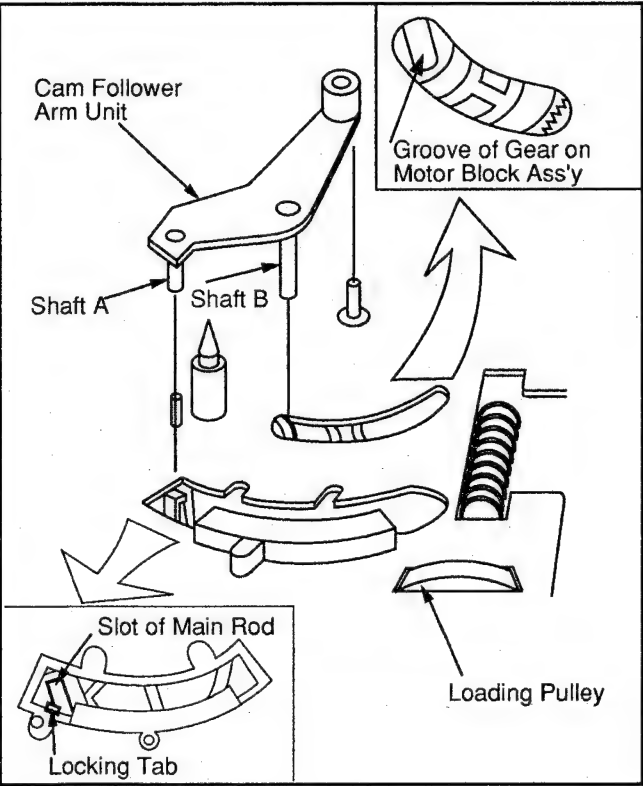

Fig. A5
2. Then install the Cam Follower Arm Unit, as shown in Fig. A5.
4. Confirm that Shaft B is installed into the groove on the gear of the Motor Block Ass'y at the point indicated by the arrow in Fig. A5.